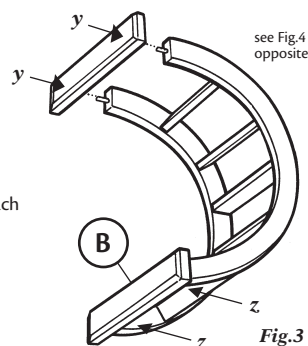

Fig.3
5. Next, fit the top plinths (B) to each end of the roof assembly using screws (y) - see Fig.3